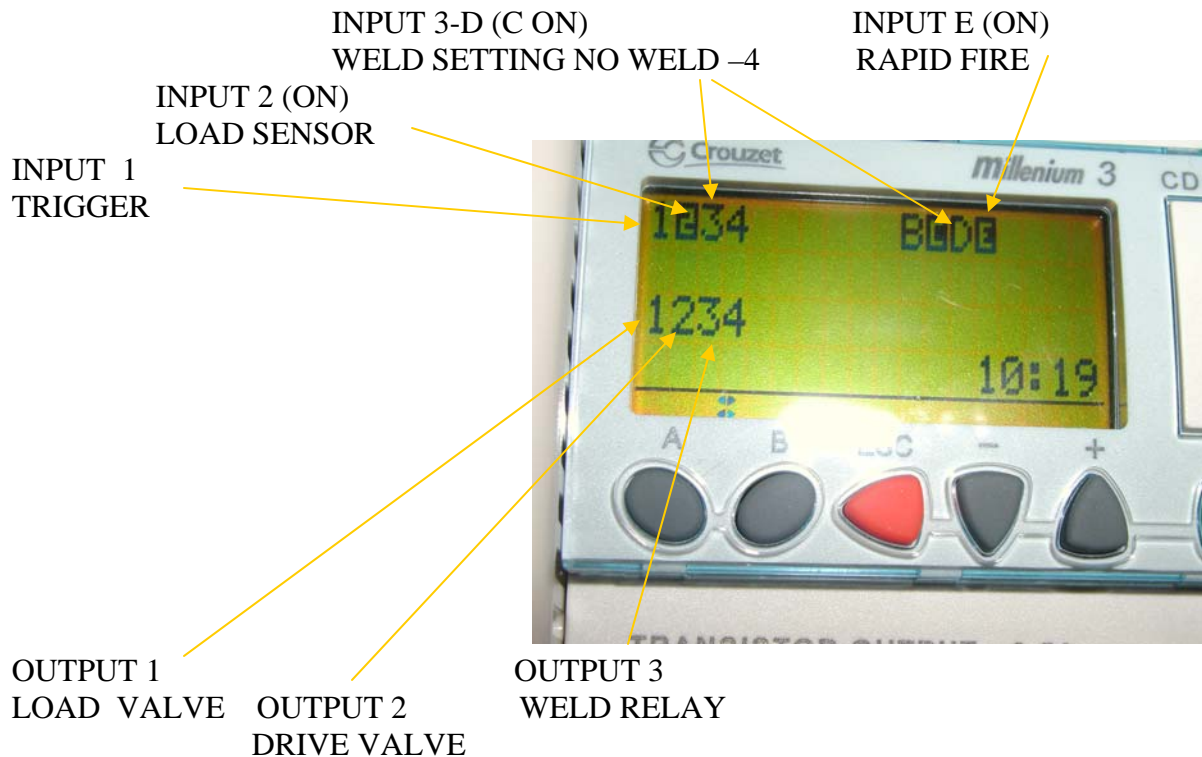

Figure 1
5. Connect electricity to the disconnect switch located inside the Electrical Enclosure on the door. (See Figure 1) Measure the voltage at the customer supplied fused disconnect. Set the jumper on the terminal strip (190, 208 or 230) to match the incoming voltage.